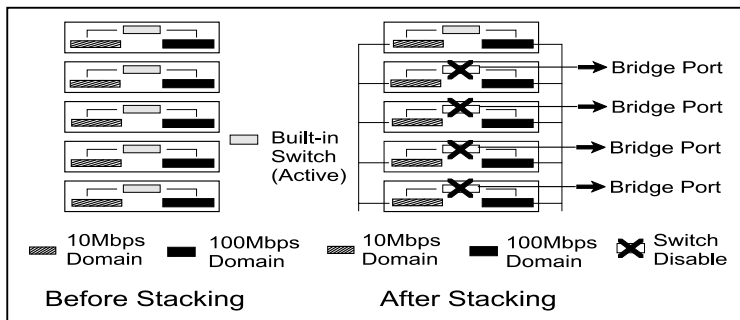

Figure 3-3 Auto Data looping prevention in ALH-616ds.
- The built-in switches in slave hubs will be disabled automatically to avoid data looping from multiple inter-connections of hubs, as shown in Figure 3-3.